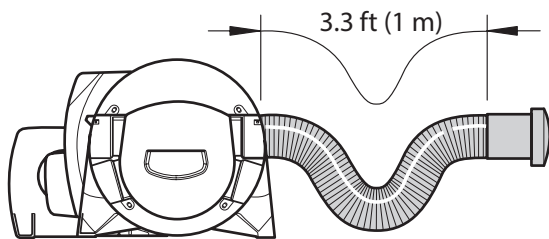

Fig. 18
3. To prevent undesirable heating of the vehicle due to convection (stack effect) while the water heating mode is activated, create a U-shaped trap near the warm air outlet of the Combi furnace (Fig. 18). Alternatively, install the first outlet at a height above the floor not exceeding: